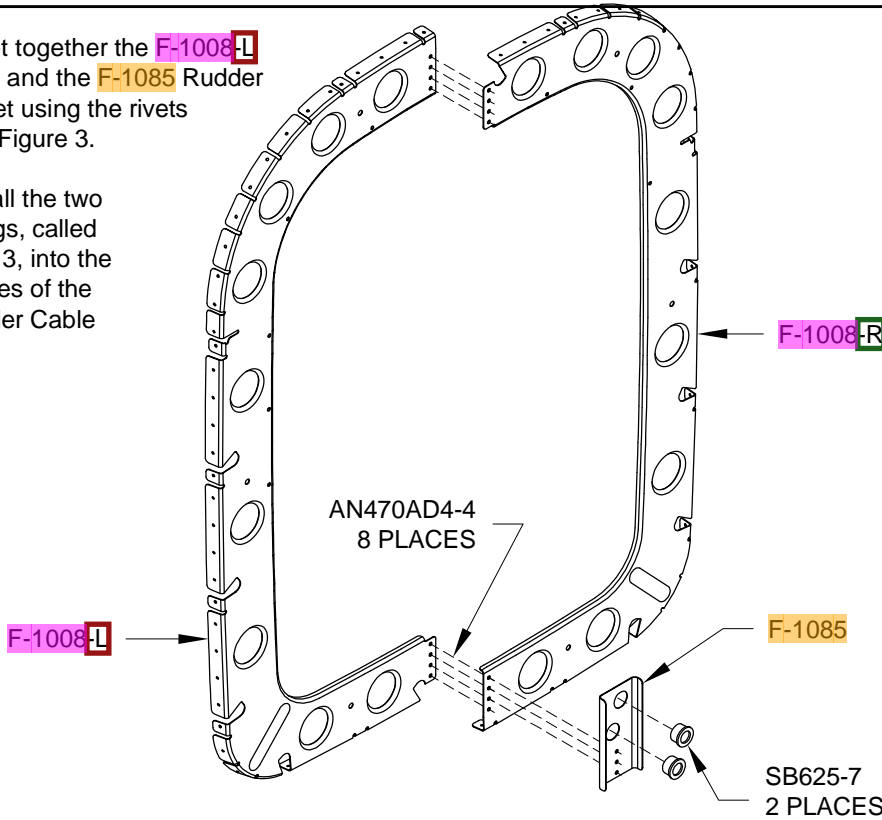

FIGURE 3: RIVETING THE F-1008 FRAMES
Step 3: Rivet together the F-1008-L & -R Frames and the F-1085 Rudder Cable Bracket using the rivets called out in Figure 3.
Step 4: Install the two snap bushings, called out in Figure 3, into the indicated holes of the F-1085 Rudder Cable Bracket.